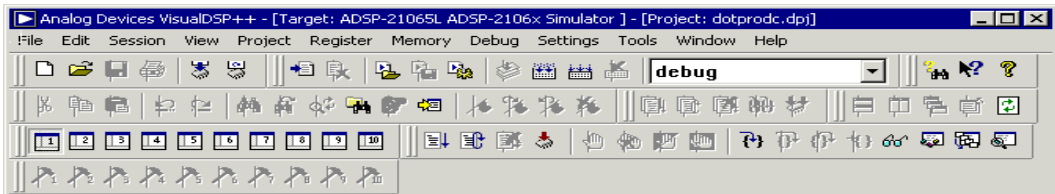

Figure 2-1. VisualDSP++ Toolbar Buttons
**Tip:** Become familiar with the VisualDSP++ toolbar buttons, shown in Figure 2-1. They are shortcuts for menu commands such as **File**, **Open**. Toolbar buttons and menu commands that are not available for the task that you are performing are disabled and displayed in gray.